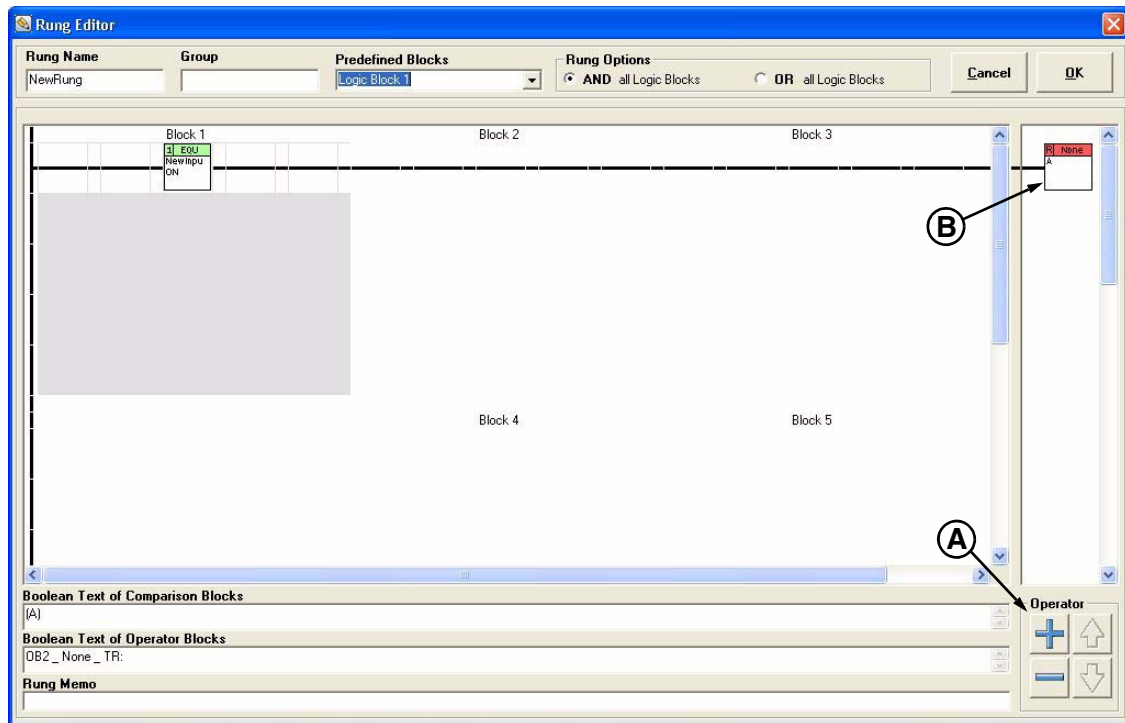

Figure 22
31. Click the  **ADD** button in the *Operator* frame (**Figure 22, A**).
32. Double-click the newly added block (**Figure 22, B**) to open the **Edit/Create Operator Block** window.